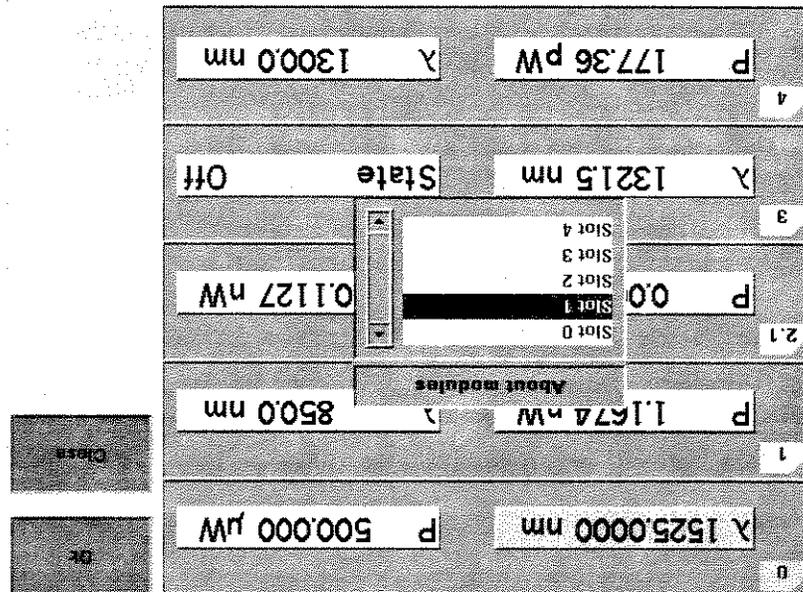

Figure 34 Slots with Installed Modules
2 Move to the <About Modules> menu option and press *Enter*. You see a box displaying the slots which have installed modules, see Figure 34.
- 5 Press [Close] to return to the menu in Figure 34.